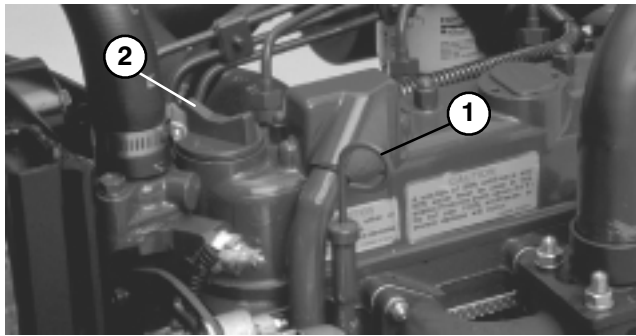
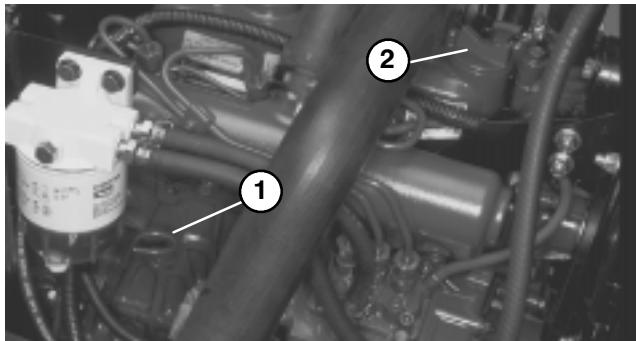

Figure 14
Figure 15
CHECK ENGINE OIL (Fig. 14 & 15)
2. Remove dipstick, wipe clean and reinstall dipstick. Remove dipstick and check oil level on dipstick; Oil level should be up to FULL mark (Reelmaster 5200 – Fig. 14, Reelmaster 5400 – Fig. 15).